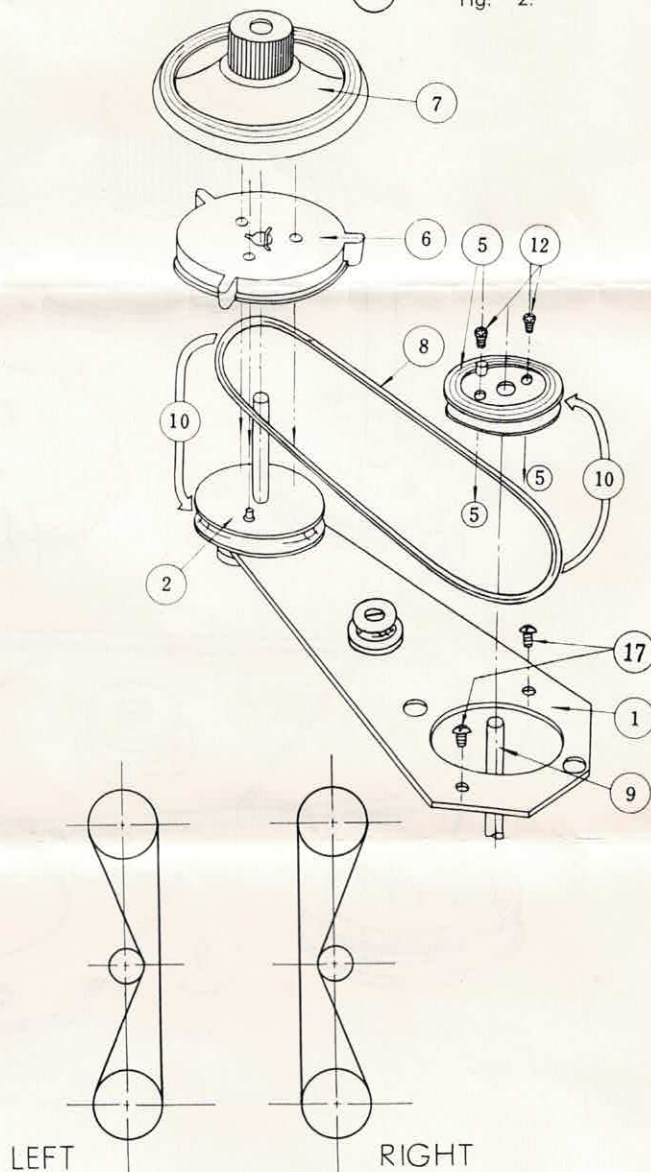

Fig. 3
3. Installation : (Refer to Fig. 3.)
Set the Belt (8) on Belt Groove and 7" Reel Table on the RTMA type reel table in Fig. 3.
This type of reel can be used on Reel Table (2) of Fig. 3.
This type of reel is shaped in its core as shown in Figure 5, and is mostly made of metal. This reel is to be used by putting the NARTB type reel adapter (6) in Fig. 3 on the RTMA type reel table (2) of the same figure.
When 10-1/2" reel is used, it is important to hold it on the reel shaft as tight as possible using the reel retainer (7) shown in Fig. 3. Put the reel retainer by slightly rotating it in either direction to hold the 10-1/2" reel tight in position.